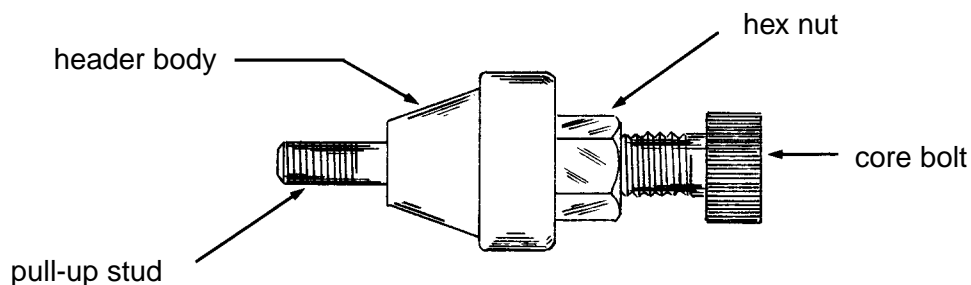

Figure 10 - Adjusting Wrench Type Header
5.6.4 Adjust wrench type header tools by holding the nut on the header body and threading the body in or out, as required, to obtain the correct pull-up stud length (see Figure 10)